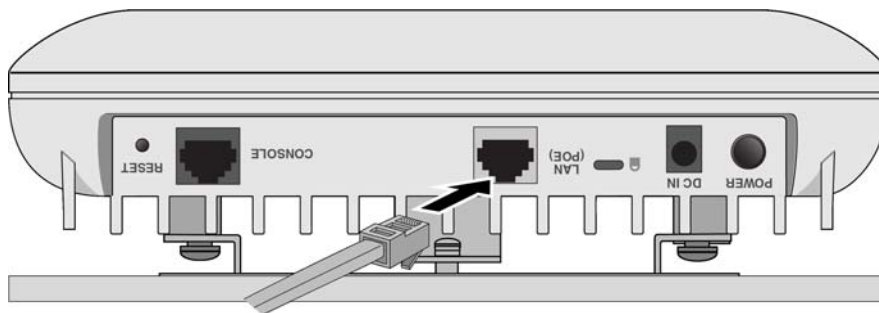

Figure 23. Connecting an Ethernet Cable to the LAN Port
1. Connect an Ethernet cable into the RJ-45 LAN port. Refer to Figure 23.